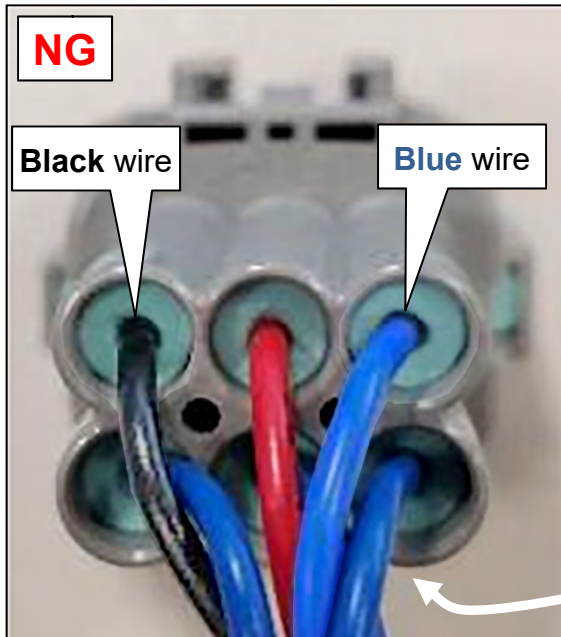

Figure 21
21. Remove both terminals of the **blue** and **black** wires from the connector (see Figures 21 and 22 for selecting the correct **blue** wire).